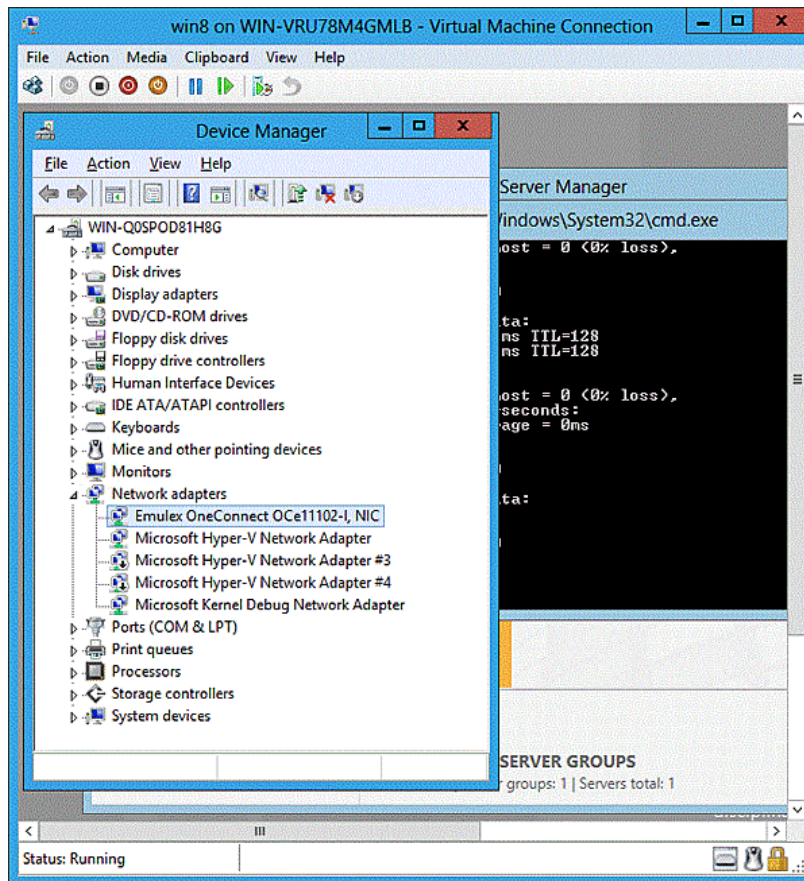

Figure 2-4 Device Manager for Windows Server 2012
2. Click **Device Manager**. The Device Manager opens. See Figure 2-4 on page 62.
2. Click **Device Manager**. The Device Driver opens. See Figure 2-4 on page 62.